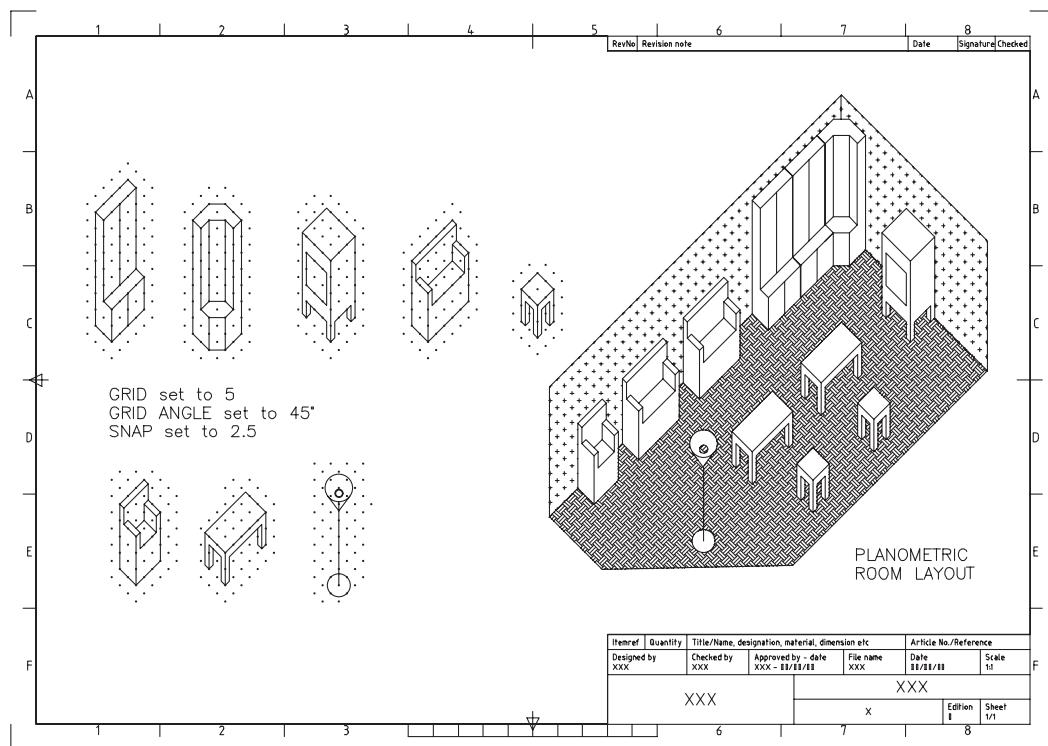

Figure 32.6 The planometric pictorial exercise.
- 6 Refer to Figure 32.6 and zoom in on a small area of the screen.